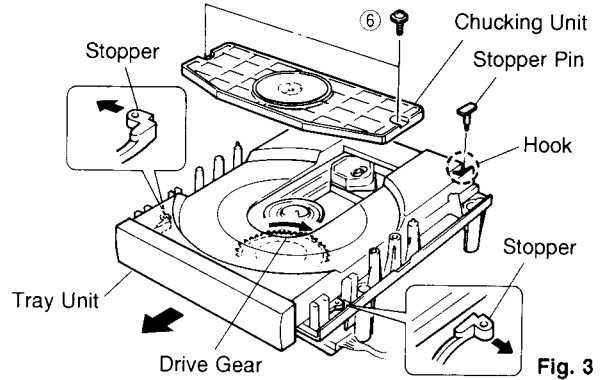

Fig. 3
- Remove 2 screws ( ⑥ ) and then remove the Chucking Unit in Fig. 3.
- Remove 1 hook and then remove the Stopper Pin in Fig. 3.
- Rotate the Drive Gear and then open the Tray Unit in Fig. 3.
- Detach the Stoppers on both sides and then pull out the Tray in Fig. 3.